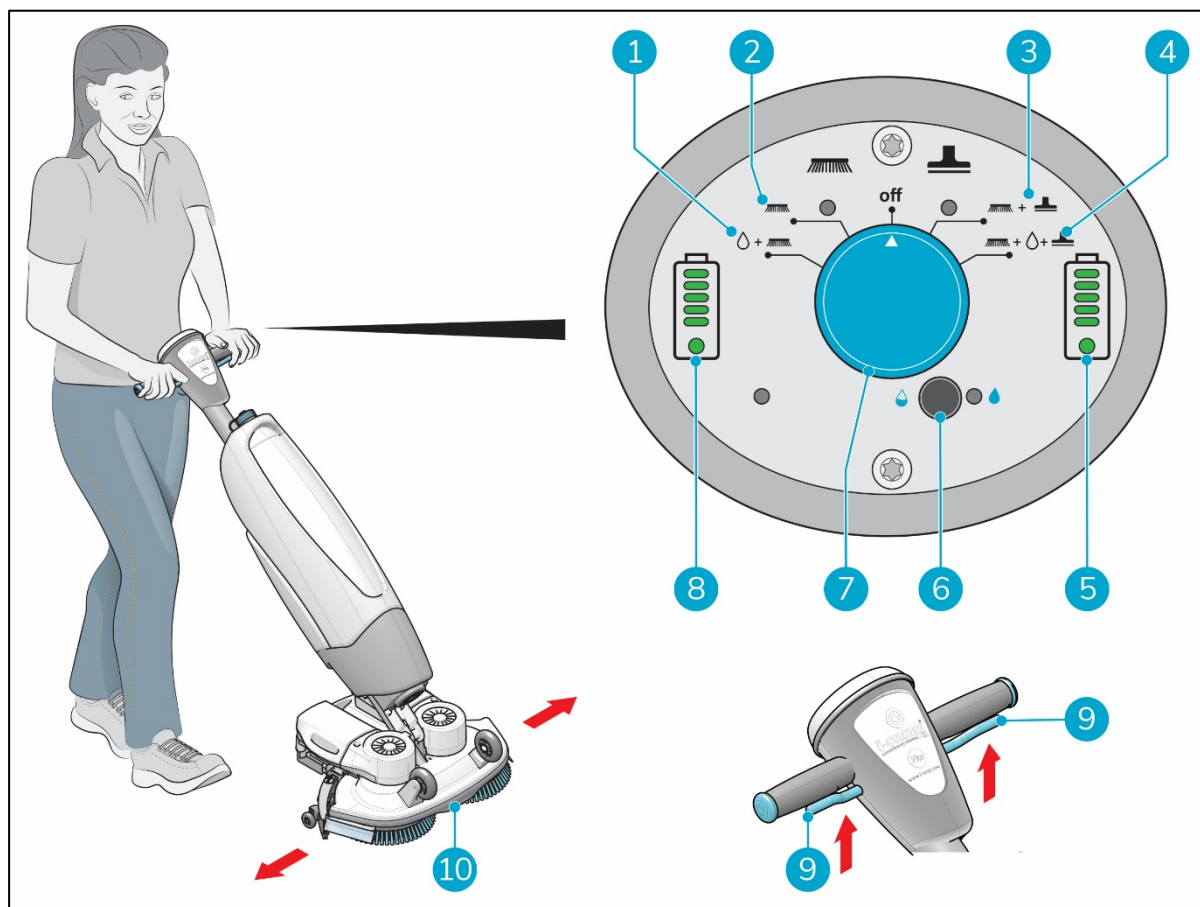

Figure 17
5. Choose your cleaning mode via the main switch (Figure 17, pos 7). This will also turn on the i-mop XL pro.
- MODE 1: Brush + water/cleaning solution (Figure 17, pos 1).
- MODE 2: Brush only (Figure 17, pos 2).
- MODE 3: Brush + vacuum (Figure 17, pos 3).
- MODE 4: Brush + water/cleaning solution + vacuum (Figure 17, pos 4).
7. Squeeze the trigger on the handle (Figure 17, pos 9).
10. Steer by gently turning the handle left or right to move the scrub deck (Figure 17, pos 10).
11. Releasing the trigger (Figure 17, pos 9) will immediately stop the i-mop XL pro. The vacuum motor will stop after 3 seconds.